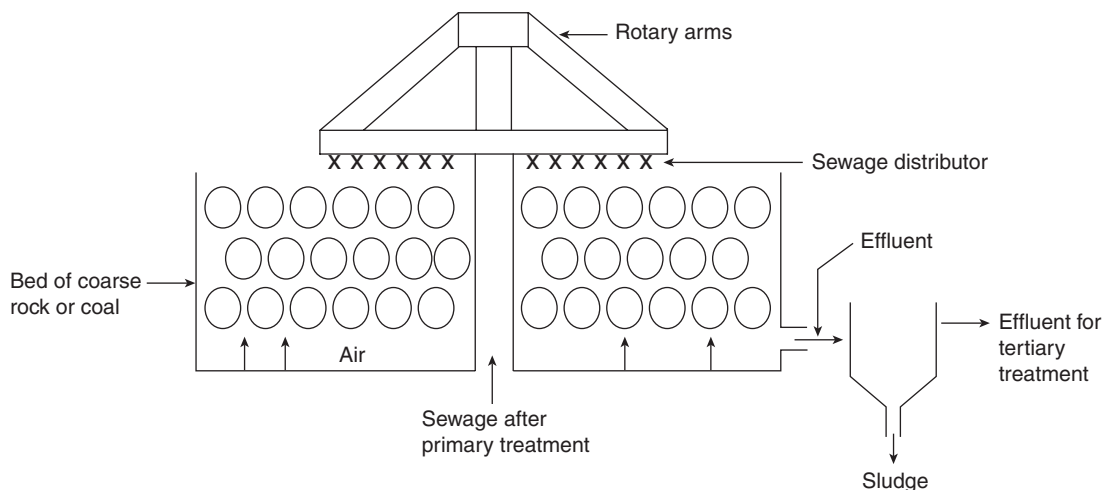

Figure 11 Schematic diagram of trickling filter.
1. **Trickling filter:** In this method, a 2 m deep cylindrical tank is filled with a bed of either crushed rock, coarse clinkers or anthracite coal (Figure 11). The sewage is allowed to trickle over this filtering material by means of rotary feeder arm. Air is pumped into the filter to counter current the downward flow of sewage growth and cover the surface of filter medium. These further feed on the organic waste present in sewage and release carbon dioxide and water. The purified sewage is removed from the bottom and complex organic material that does not undergo microbial oxidation is separated. This process removes about 85–90% of BOD.